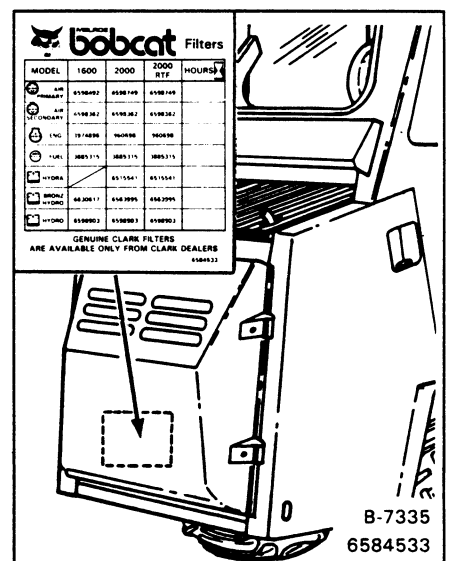

Fig. 1-9 Filter Decal
(8) Record the operating hours of the loader on the decal (Fig. 1-9, Item 1).
- (8) Record the operating hours of the loader on the filter decal (Fig. 1-9).